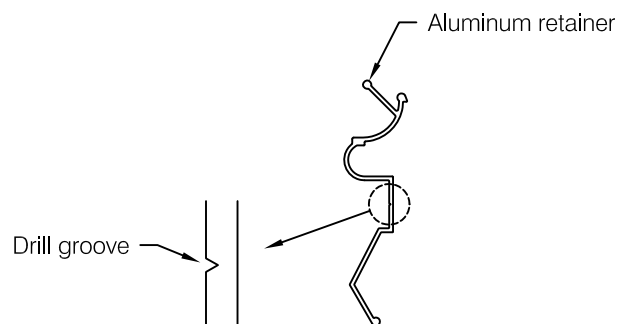

fig 2
- Note:* Use groove in retainer to locate centerline for drilling, see **fig 2**